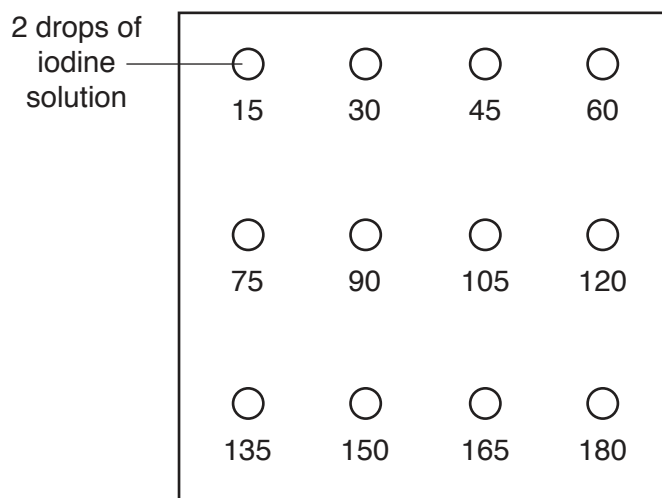

Fig. 1.1
Fig. 1.1 shows a spotting tile with drops of iodine solution that have been labelled with the time, in seconds, that they will be used to test a sample.
2. Set up a spotting tile, as shown in Fig. 1.1.
11. After 15 seconds, use the glass rod to remove a sample of the mixture and stir it into the iodine solution labelled '15' on the spotting tile, as shown in Fig. 1.1. Wipe the end of the glass rod with a paper towel.